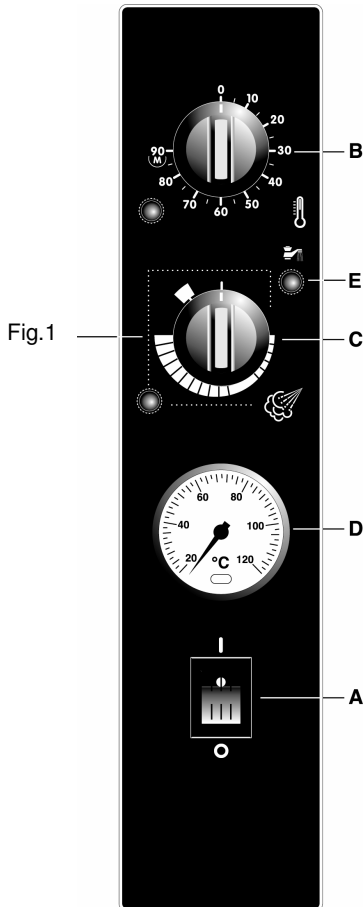

Fig.1
- B. **Temperature regulation knob**, with warning light to show that temperature has been reached. It is advisable to set a temperature of 90°C (M)
- C. **Humidity regulation knob**, with warning light indicating operation. It is advisable to regulate on the "medium humidity" area (Fig. 1)
- E. **Humidity regulation knob**, with warning light indicating operation. It is advisable to regulate on the "medium humidity" area (Fig. 1).